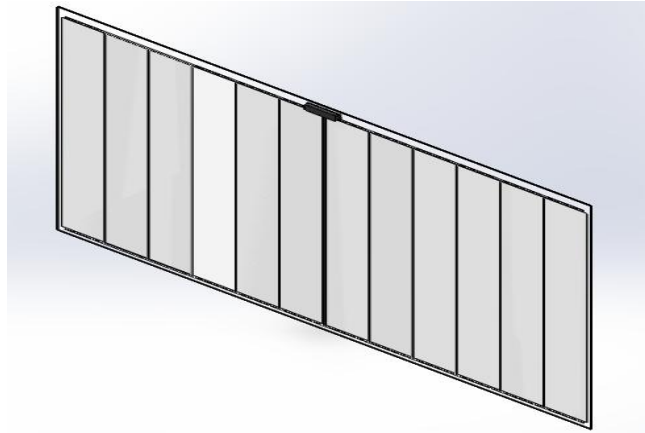

Figure 10 Double glass module suitable for fixture installation
**6.3.2.1** Fixture installation is suitable for modules without hook as shown in Figure 10. Fixture recommended aluminum alloy material or with the performance of metal material. A suitable cushion is required between the fixture and the module glass. EPDM rubber is recommended.